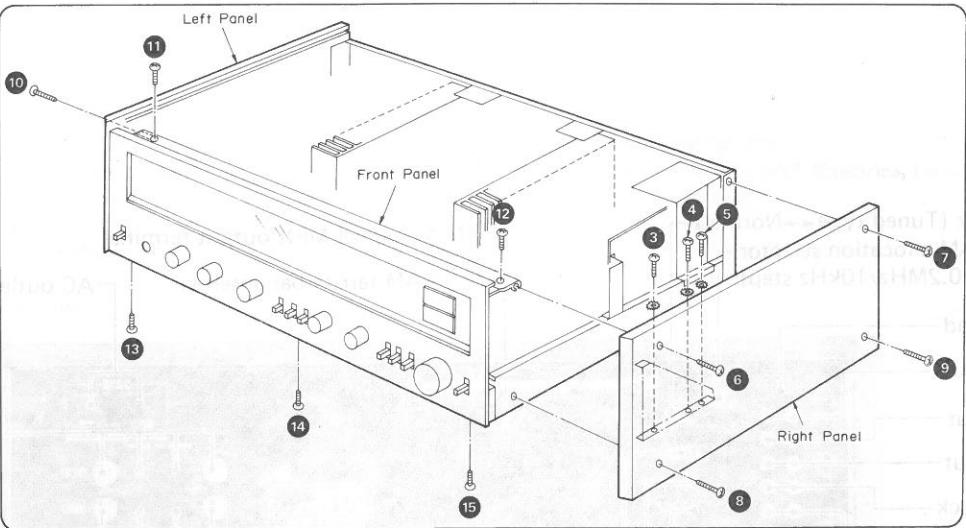

Fig. 2
3. Remove the 7 setscrews (Fig. 2 : ③ ~ ⑨) of the right panel to detach the panel from the chassis.
4. Remove the 1 setscrew (Fig. 2 : ⑩) of the left panel.
5. Remove the 5 setscrews (Fig. 2 : ⑪ ~ ⑯) of the front panel.